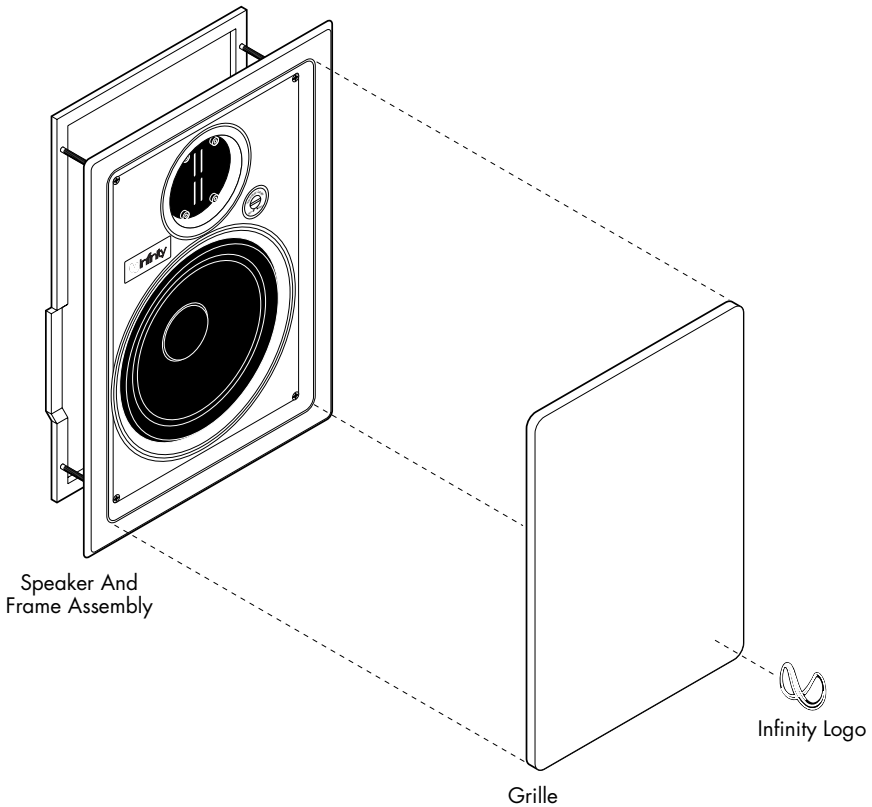

Figure 1. Drawing shows assembly procedure (ERS 840 is shown).
3. Verify that the package includes two sets of the following items (one for each speaker), as shown in Figure 1 (on next page):